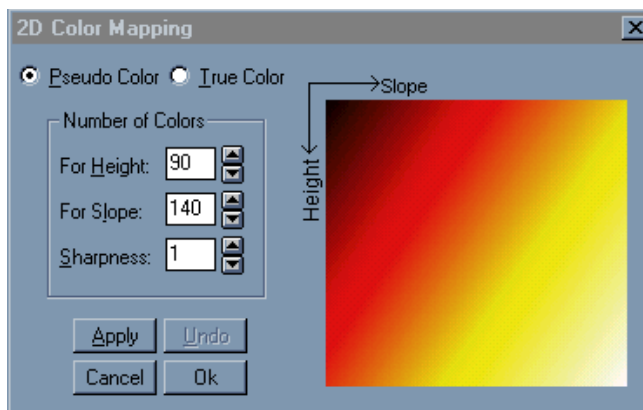

Figure 6.10
You can set (1) the number of colors used for height and slope and (2) the sharpness used in both of these options on the **2D Color Editor** window, shown in Figure 6.10.
You can edit the parameters used in **Pseudo 2D Color** editing on the **2D Color Editor** window, as shown in Figure 6.10.
You can edit the parameters used in **True 2D Color** editing by opening the **2D Color Editor** window, as shown in Figure 6.10, and selecting the **True Color** option.